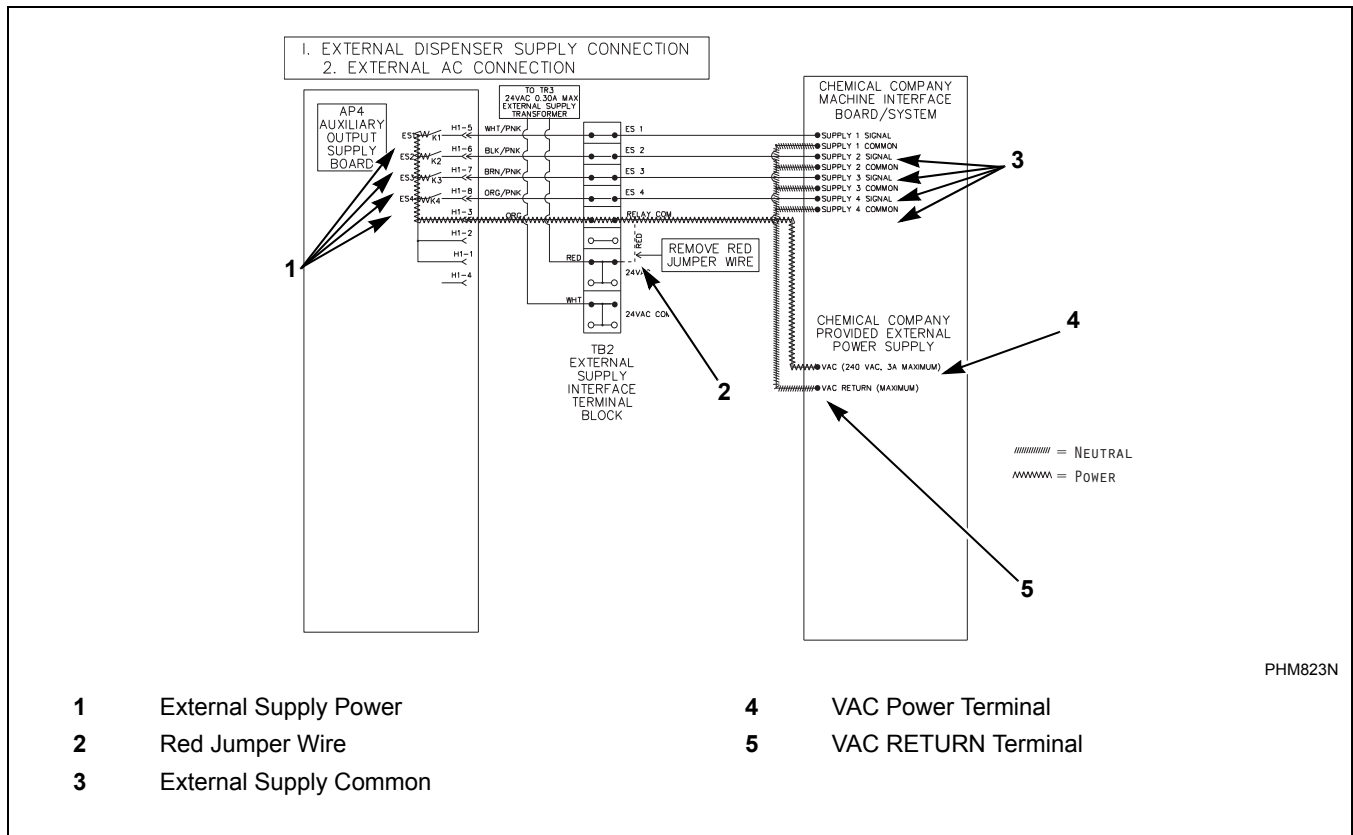

Figure 26
2. Connect one side of the external power to the “RELAY COM” and the other to the external dispenser input signals common. Refer to *Figure 26*.